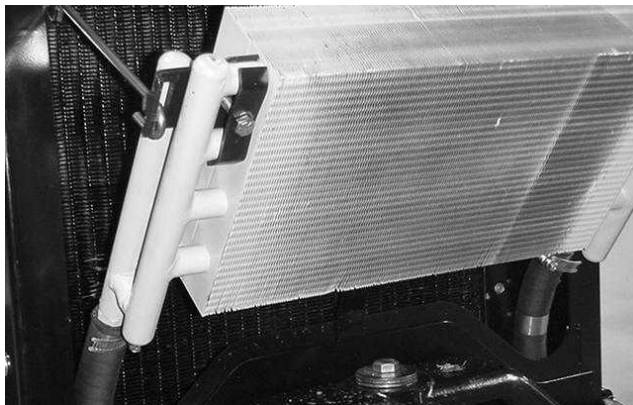

Figure 44
3. Unlatch the oil cooler and pivot it rearward (Fig. 44). Clean both sides of the oil cooler and radiator area thoroughly with water or compressed air. Pivot the oil cooler back into position.